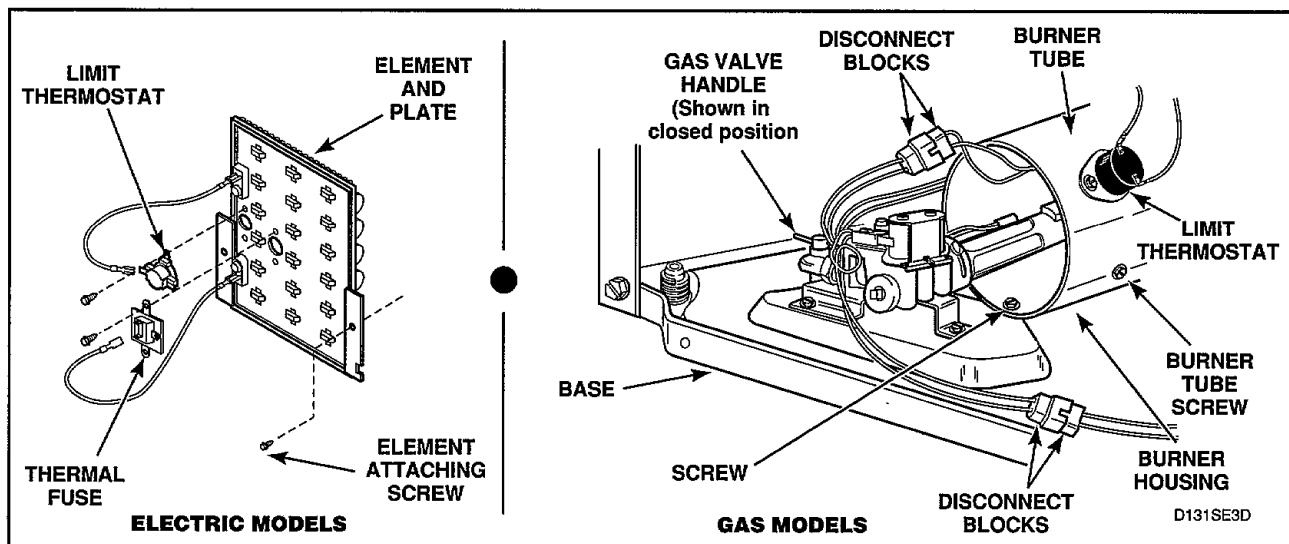

Figure 32
- (2) Gently lower the access panel to disengage guide lugs from bottom edge of front panel.
- (3) Close gas shut-off valve, disconnect igniter wires at disconnect blocks, sensor wires from flame sensor terminals, and wires from gas valve coils at the quick disconnect blocks, *Figure 32*.
- Disconnect igniter wires at disconnect blocks, sensor wires from flame sensor terminals, and wires from gas valve coils at quick disconnect blocks, *Figure 32*.
- Remove screw from right side of burner housing holding burner tube in place, *Figure 32*.
- Remove screw holding front of burner housing to dryer base and remove housing out through front of dryer, *Figure 32*.
- Disconnect wires and remove screws holding limit thermostat to burner housing or element plate, *Figure 32*.
- Remove two screws holding element and plate to heater box and pull element down and away from heater box, *Figure 32*.
- Disconnect wires from element and plate, *Figure 32*.
- Remove screws holding thermostat and thermal fuse to element plate, *Figure 32*.